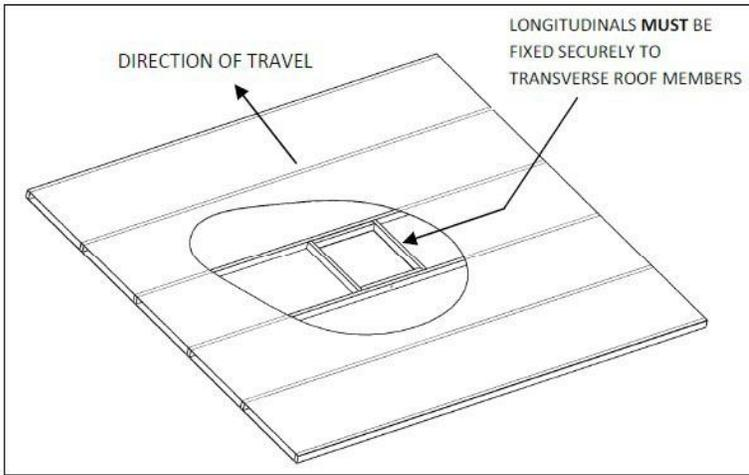
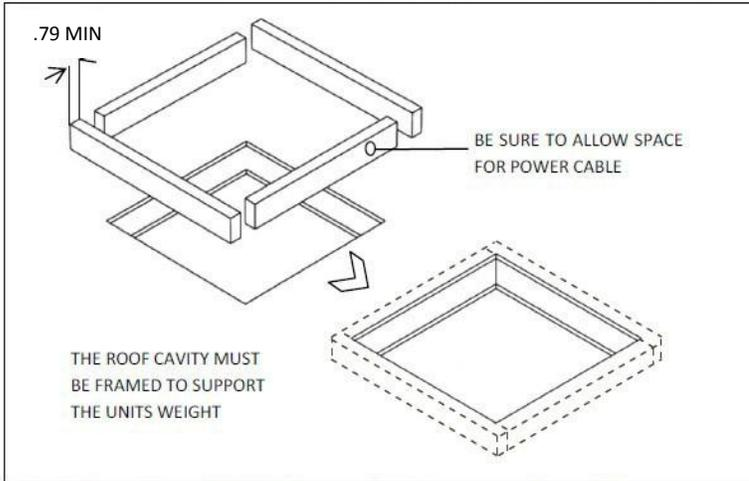

Fig 3: Shows an ideal roof structure with strong longitudinals and a 14' hole boxed
Fig 4: The roof cavity **MUST** be boxed with timber to provide a solid structure
- The square hole in the roof (14" x 14") **MUST** be boxed up with minimum 3/4 inch square timber to provide a structure strong enough to withstand the compression of the installation bolts. This is also to ensure that air is not drawn from the roof cavity (Fig 3 & 4). Remember to leave access for wiring.
- Longitudinals **MUST** be fixed securely to the transverse roof members to transfer load (see Fig 3).
2. Hold the clear strain relief cover with bottom facing upward as shown in Figure 3.
3. Lay wire into locator slots, making sure the black wire is placed into the polarization slot as shown in Figure 3.
4. Press the cable sheath into the integral strain relief slot as shown in Figure 3. Trimming of ground wire and possibly others will be necessary. Wires must not extend beyond the locators as shown in Figure 4!
5. While holding the strain relief cover, position the housing's hinge posts into the hinge slots and press down until both lock into place as shown in Figure 4.